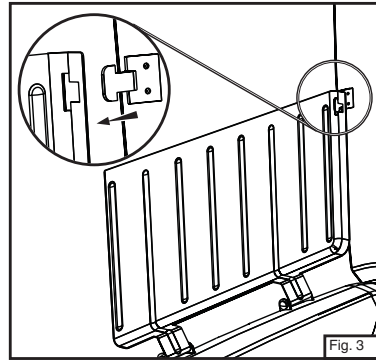

Fig. 3
- Assemble WINDBAFFLES to LID. (Fig. 3)